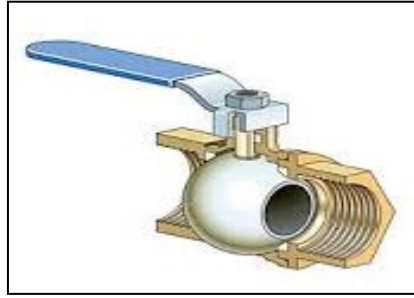

Figure A3c / Rajah A3c
- (c) A shut-off valve is a valve that safely manages the flow of hazardous fluids (liquids, gases, slurries, and fluidized solids). Shut-off valves are also known as on-off valves, cut-off valves, lockout valves, stop valves, etc. Figure A3c shows one of shut-off valve that controls the flow of a liquid or gas. Write the valve name, physical characteristic, valve operation, and the application of the valve.